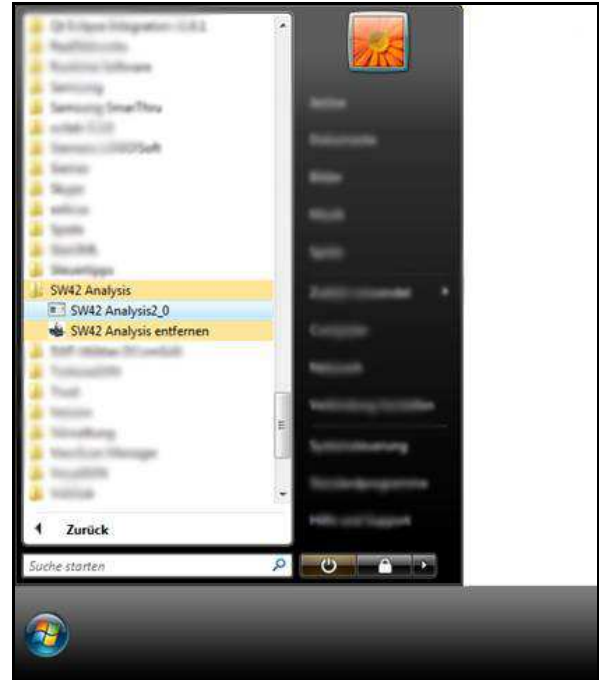

Fig. 35
3. Start the "SW42 Analysis2_0" program via the Start menu (Fig. 35).